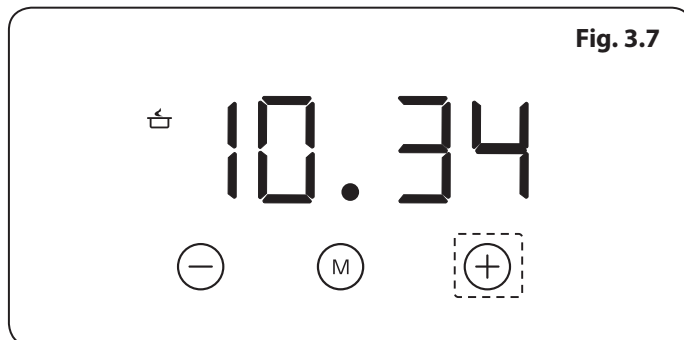

Fig. 3.7
- Then touch '-' or '+' to select the required duration for the semi-automatic cooking programme. When the correct duration shows on the display, wait for approximately five seconds. The cooking time indicator will remain lit to confirm the semi-automatic programme is on (**Fig. 3.7**).